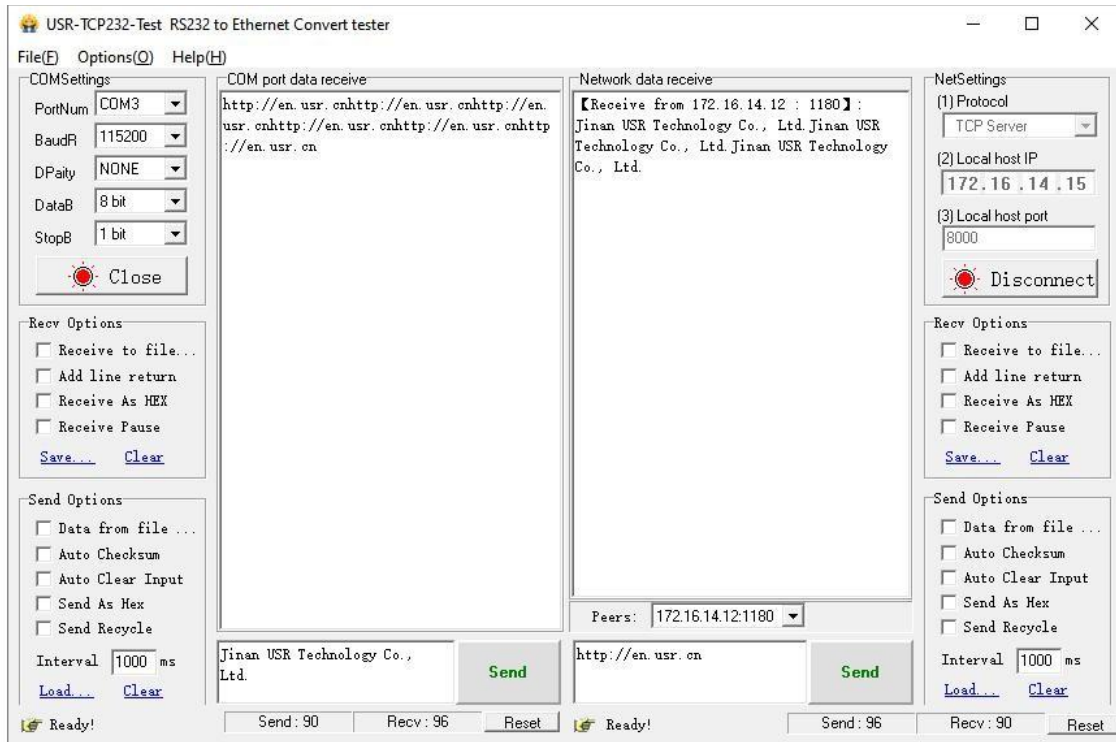

Fig.50 N5X0 initiating TCP connection
4. After finishing configuring the working Mode, please scroll down to the bottom of the page and click on "Save & Apply" button to save all the changes that you have made. All configurations take effect after a system reboot. Fig.50 shows an example of test in this mode. By selecting the TCP Client operation mode, a TCP server program on a remote host computer should be prepared to accept a connection request from the device. In this case, Host IP address is 172.16.14.15.